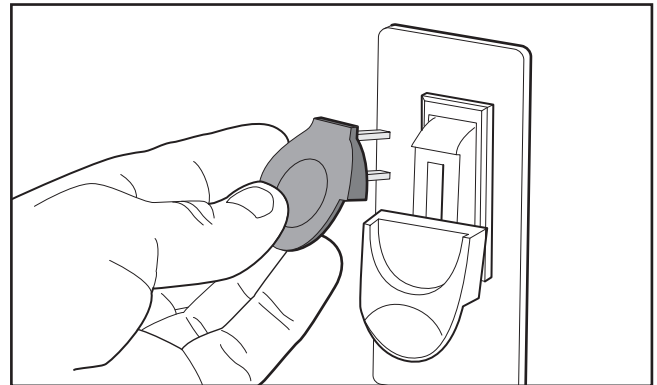

Figure 12. Removing switch key from paddle switch.
4. Remove switch disabling key, as shown in **Figure 12**.